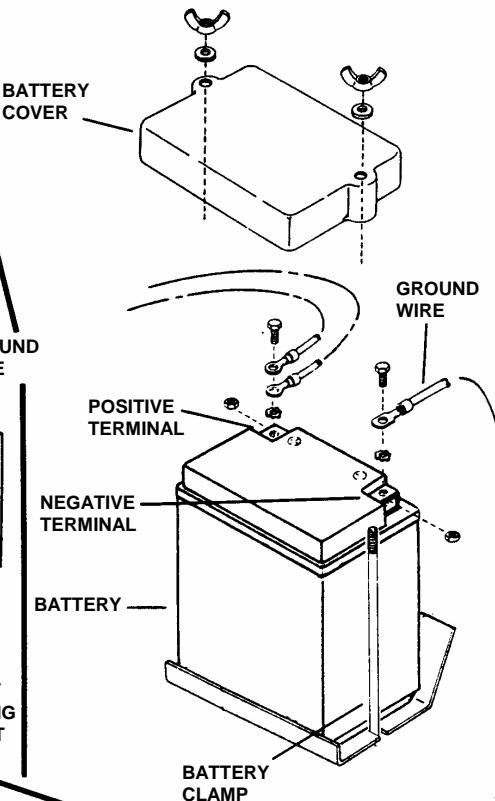

FIGURE 7
STEP 12: Mount battery cover and secure with washers and wing nuts as shown. See Figure 7. Make sure all nuts and bolts are tight. All wire connections should be securely connected.